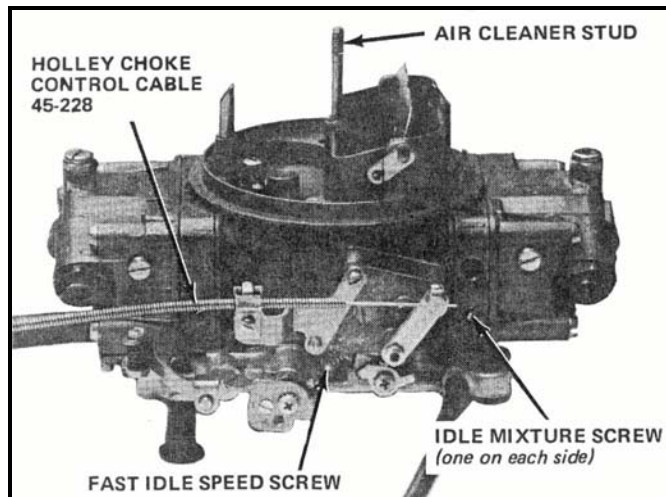

Figure 7
15. Install a suitable manual choke cable, such as Holley P/N 45-228 and choke mounting bracket P/N 45-229. Check to make sure that the choke fully opens with the cable. See Figure 7.
3. Choke: If the fast idle speed provided during the choke operation needs adjustment, turn the engine off. Close the choke exposing the fast idle adjusting screw. Use a small open end wrench for ease of adjustment. See Figure 7.